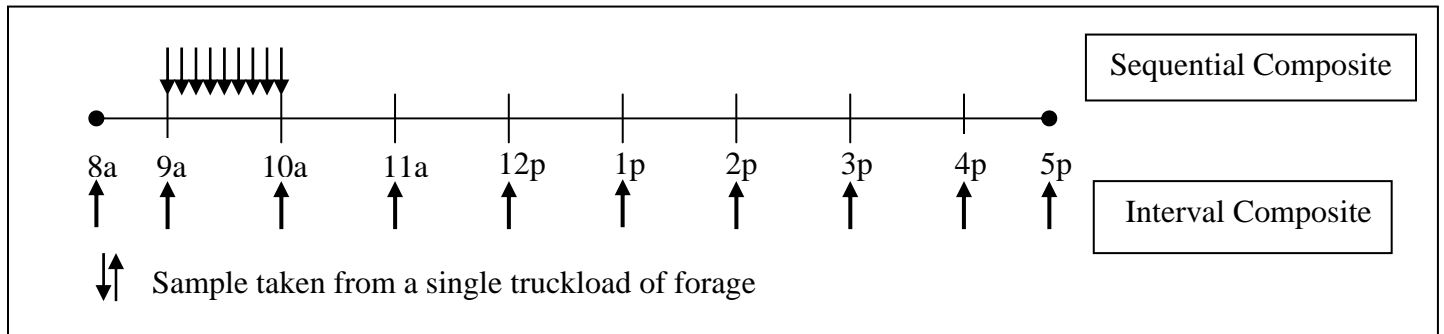

Figure 1. Example of truckload samples taken to create Sequential (top) and Interval (bottom) composites.
Our objective was to determine if differences exist in calculating dry matter (DM) removal based on various intensities of sub-sample and composite collection. We collected a representative sample and noted the forage weight from every truck unloaded from a single corn field on three dairies. Actual DM removed was calculated by summing truckload weight * DM for all collected samples. Field DM removal totals were calculated using two composite sampling methods (sequence and interval). Sequence values are the average of sample DM within an hour of harvest; for example, forages from trucks that unloaded between 9a and 10a (see **Figure 1**). Interval values are the average of every 10th sample collected, for example, forage that was unloaded at 9a, 10a, 11a, etc.
When *Mycoplasma spp.*, *Strep. ag.* or *Staph. aureus* are identified in BTM, it almost always indicate that there are infected quarters in the herd. *Staphylococcus aureus* is shed in low numbers and an attainable goal is less than 50 CFU/mL. BTM pathogen culture results from Jan-08 to Dec-08 are presented in **Figure 1**.
Figure 1. Percentage of herds with at least one positive culture a month for mycoplasma spp. (Left), *Strep. agalactiae* (Center), bacterial counts equal or greater to 50 CFU of *Staph. aureus* (Right).